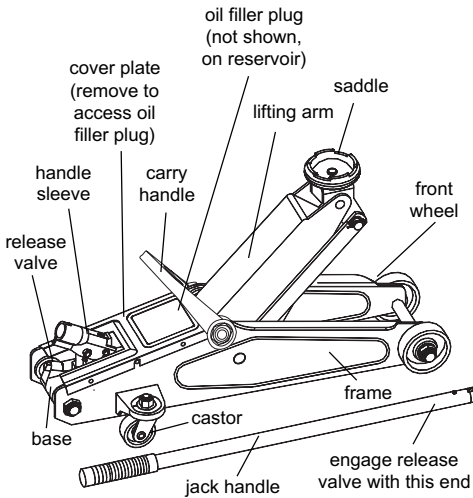

FIG. 2
Compare Fig. 2 illustration with your jack BEFORE operation to become familiar with the location of various jack components.
- With notched end of the jack handle (see Fig. 2) close release valve by turning the handle clockwise.